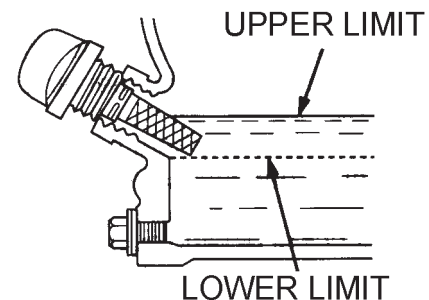

Figure 10. Engine Oil Dipstick (Oil Level)
4. If the oil level is low (Figure 10), fill to the edge of the oil filler hole with the recommended oil type as listed in Table 5. Reference Table 4 for maximum engine oil capacity.